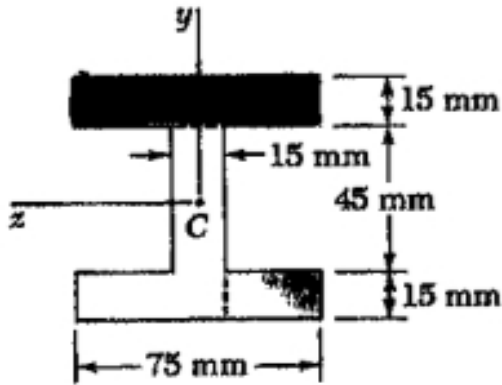

Figure 5.2
- d. Given that a beam of the cross section shown in Figure 5.2 is bend about the horizontal axis and that the bending moment is 8 kNm , determine the force acting on the top flange **[10 marks]**